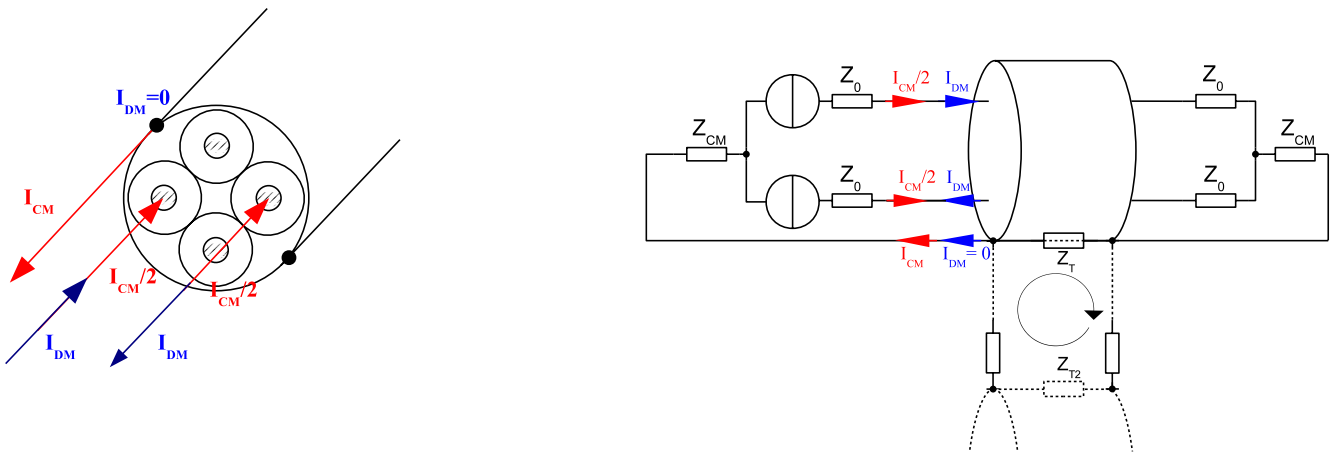

Figure 2: Current paths of Common mode (CM) and Differential mode (DM)
Figure 2 indicates the current direction when the conductor pair is in differential mode (blue) and common mode (red). It is possible to see in differential mode (DM) that one conductor is the feed conductor and the other is the return conductor, and that a return current does not flow on the shield. In common mode (CM), both conductors are more or less connected in parallel as feed conductors and the shield acts as the return conductor. Furthermore, the termination impedances  $Z_0$  of  $50 \Omega$  are shown at both ends of the conductors and the impedances for the CM termination  $Z_{CM}$  are indicated. In addition, the external coupling via the transfer impedance  $Z_T$  is indicated.